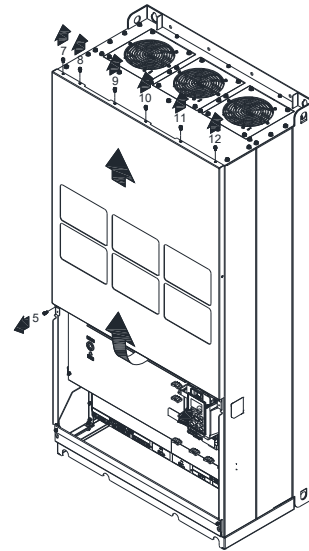

Figure 2
2. Loosen the screw 5–12 and remove the top cover (figure 2). Screw torque: 24–26kg-cm / [20.8–22.6 lb-in.] / [2.4–2.5 Nm]